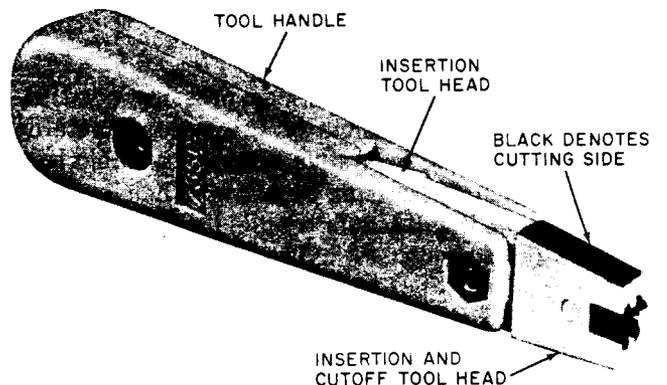

Fig. 8—788D3 Inserter-Cutter Tool
**2.08 788D3:** The 788D3 inserter-cutter tool (Fig. 8) consists of a 788A1 tool handle and an insertion head. The 788D3 is a single-pair insertion tool with reversible ends on the head. One end provides insertion cutoff capable of seating and cutting off a pair of 24-gauge F cross-connect wires on the top (jumper) side of an 88-type connecting block. The other end is for insertion only.